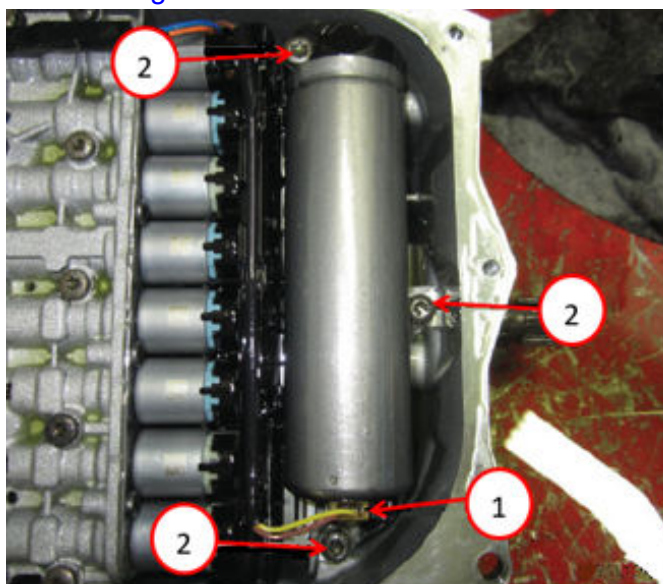

Fig. 47
72. If equipped, install the HIS and bolts Fig. 47.